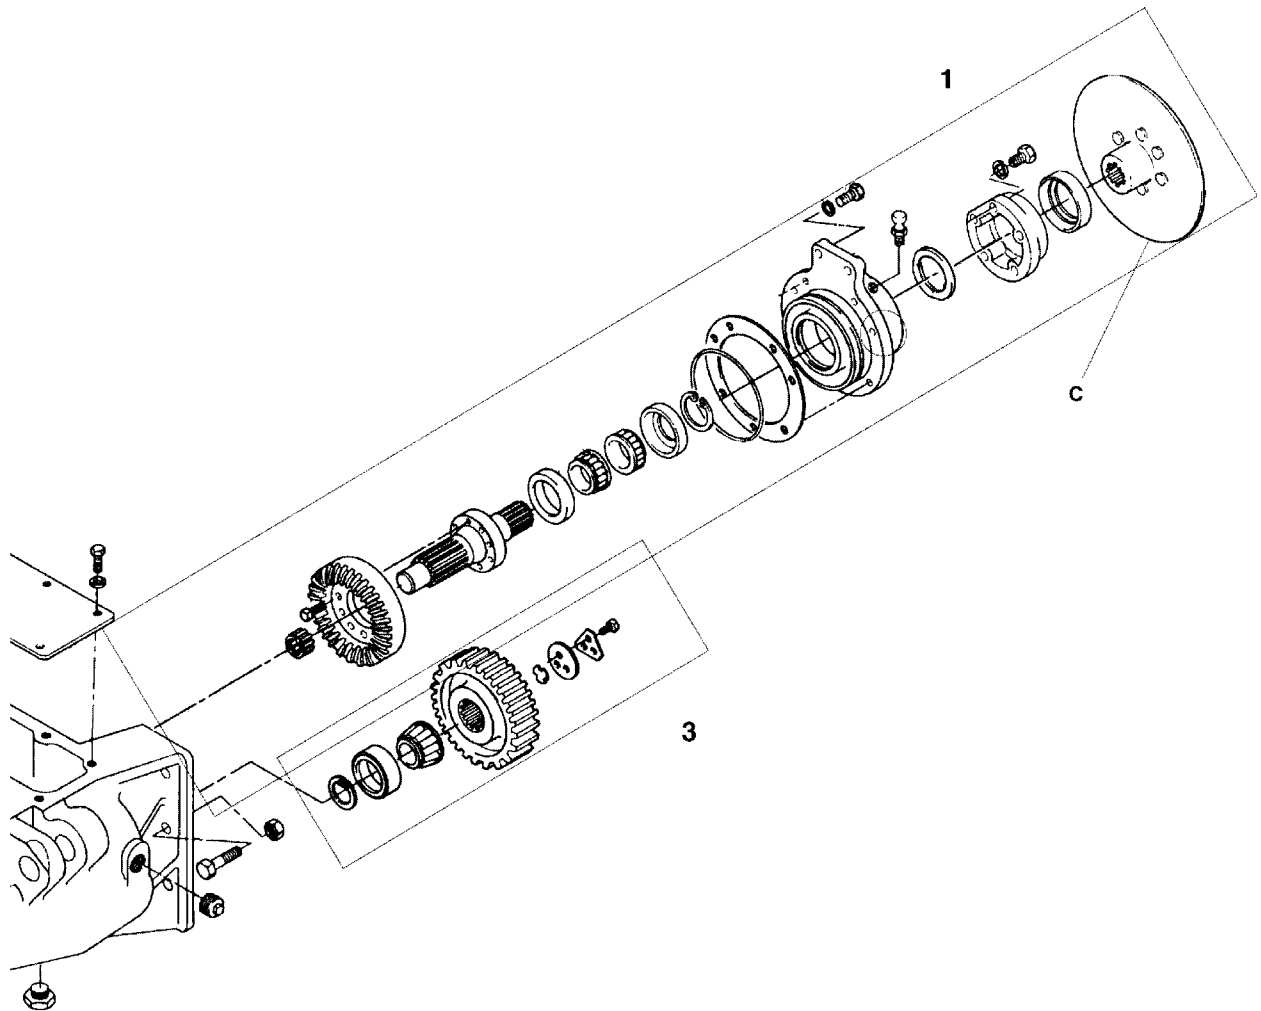

Figure 1B. Drive Unit Sub-Assemblies
6. Remove the brake disc (C) by sliding it off the ring gear shaft spline. (Figure 1B.)